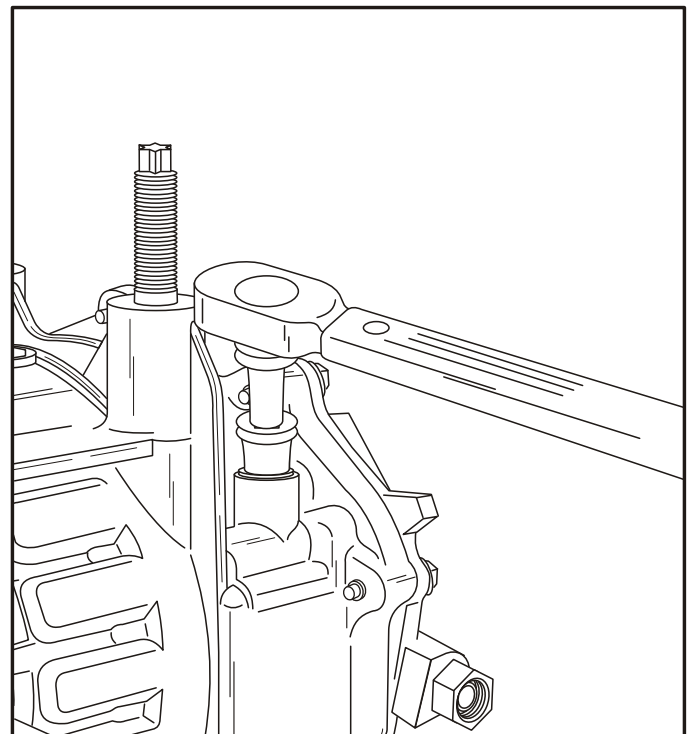

Figure 183
63. Install the selected band anchor bolt and torque to 45 N•m (33 ft.lb.), as shown in Figure 183.